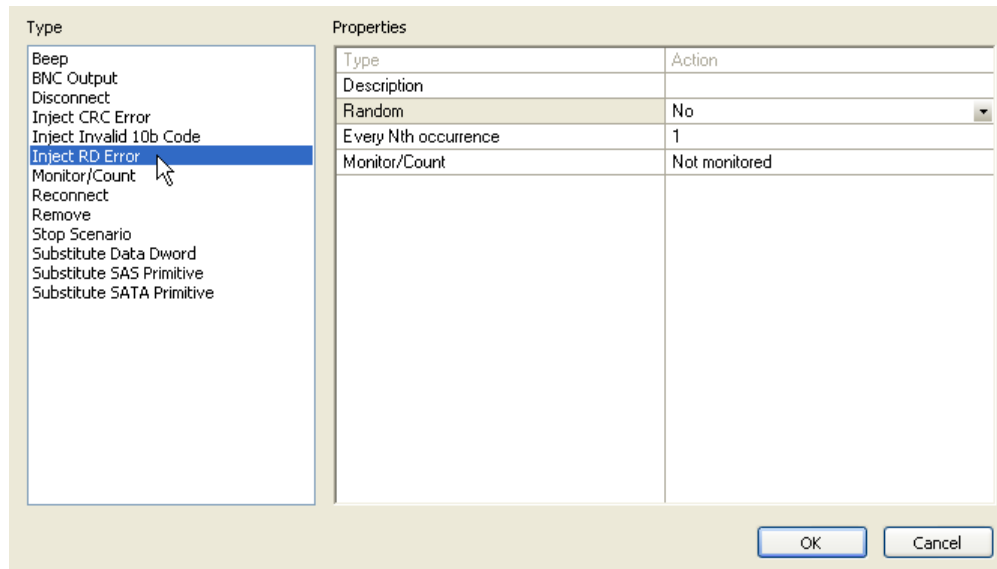

Figure 5.24 Example 4: Action Drop-Down List
- Step 7 The Action Properties dialog box appears (Figure 5.24). Use it to choose **Inject RD Error** as the action triggered by RDDY (Reserved 0).